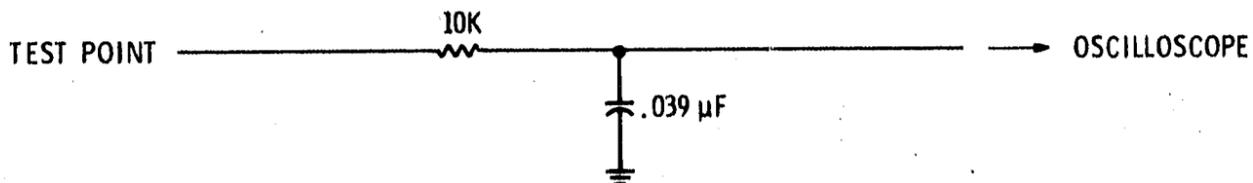

Figure 5-1. 400 Hz Low Pass Filter, Schematic
4. Check the ac ripple at A7 Test Points 1, 2 and 3. Maximum allowable ripple is 5 millivolts peak to peak. Use a 400 Hz (see Figure 5-1) low pass filter to make this measurement.